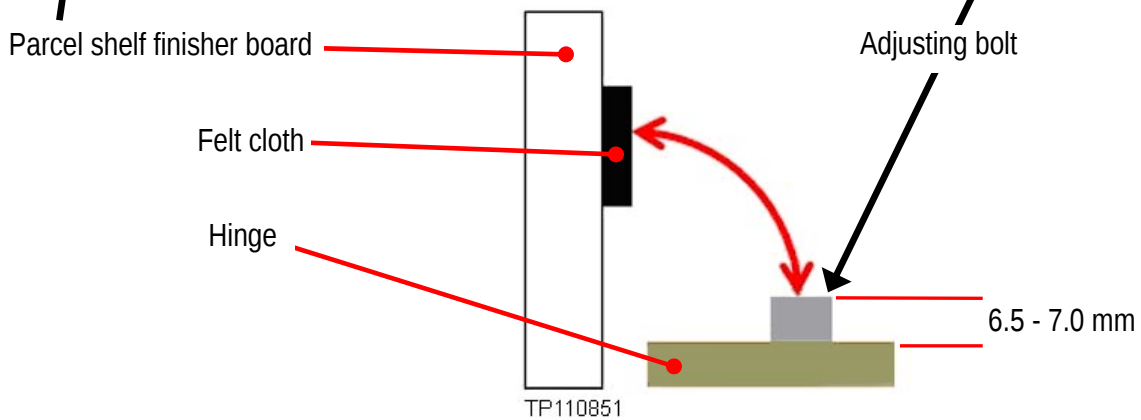

Figure 46f
- If felt cloth is not found, cut two 15 mm x 15 mm pieces from the 3 mm sheet, and then apply on the parcel shelf finisher board where the adjusting bolts come in contact (one on each side). See Figure 46f.